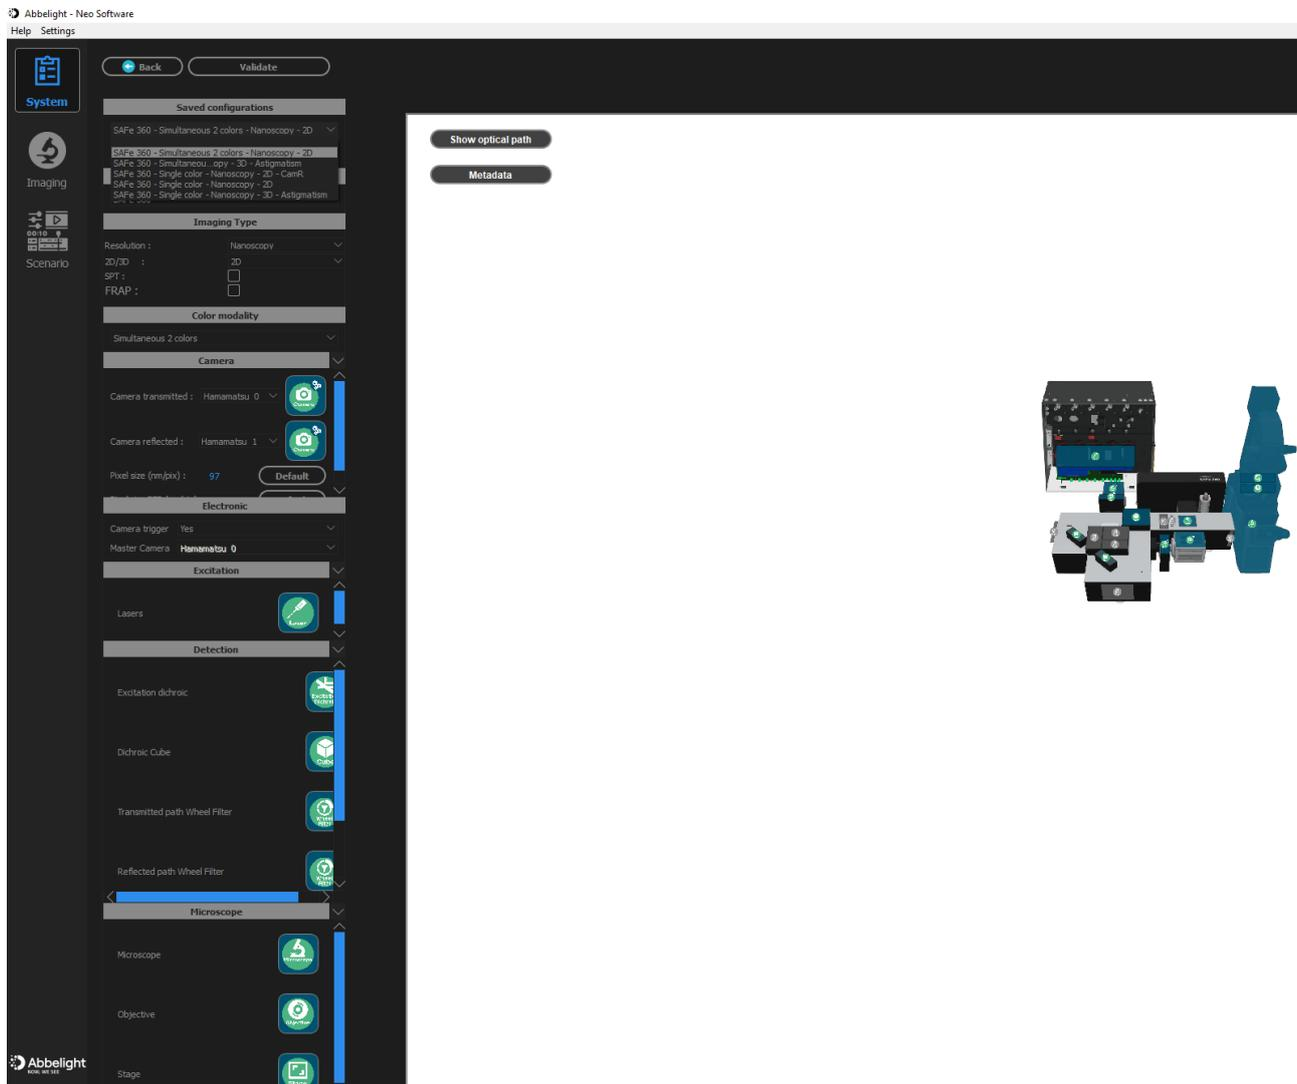

Figure 8: The hardware configuration window.
- In the resulting hardware configuration window, under “Saved configurations,” select “SAFe 360 - Simultaneous 2 colors - Nanoscopy - 2D” (Fig. 8).